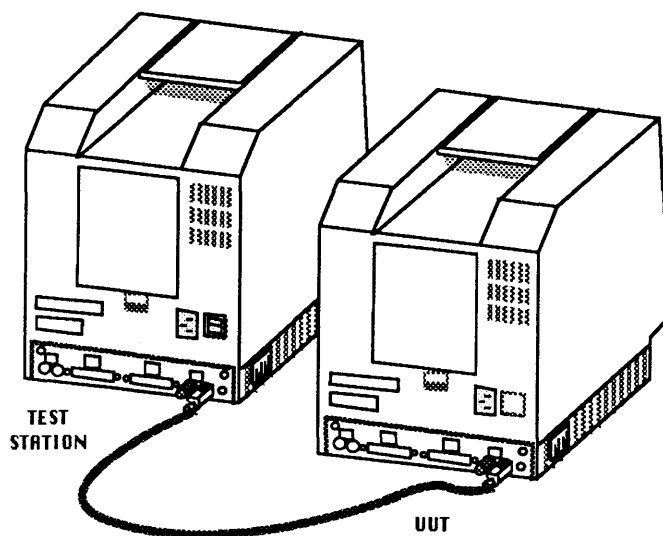

FIGURE 7
6. Connect one end of the serial port cable to the modem port on the UUT; connect the other end to the modem port on the test station (Figure 7).